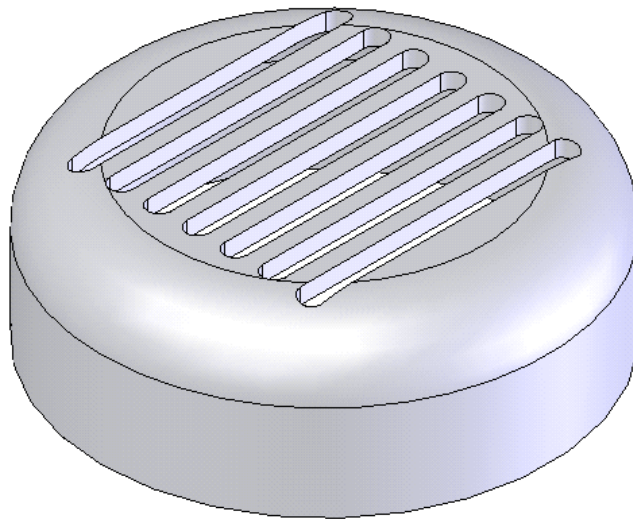

Figure 8-73 Model after patterning the cut feature
- Pattern the cut feature using the **Linear Pattern** tool, refer to Figure 8-73.
5. Now, using the **Linear Pattern** tool create a linear pattern of the cut feature. You can select the dimension 18 as the directional reference. The model after creating the linear pattern is shown in Figure 8-73.